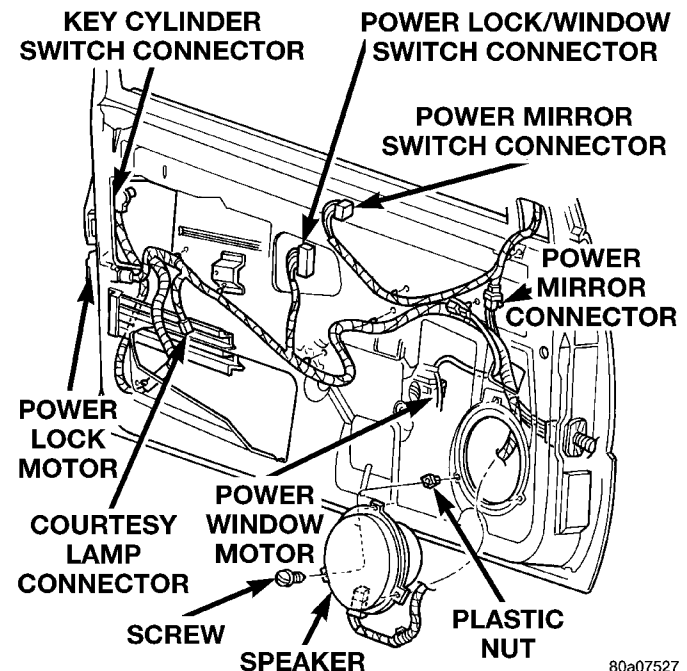

Fig. 12 Front Door Speaker Remove/Install
(8) Pull the front door trim panel away from the inner door panel far enough to access and unplug the wire harness connectors from the door module and, if the vehicle is so equipped, from the front door courtesy lamp.
(9) Remove the three screws that secure the speaker to the lower front corner of the inner door panel (Fig. 12).